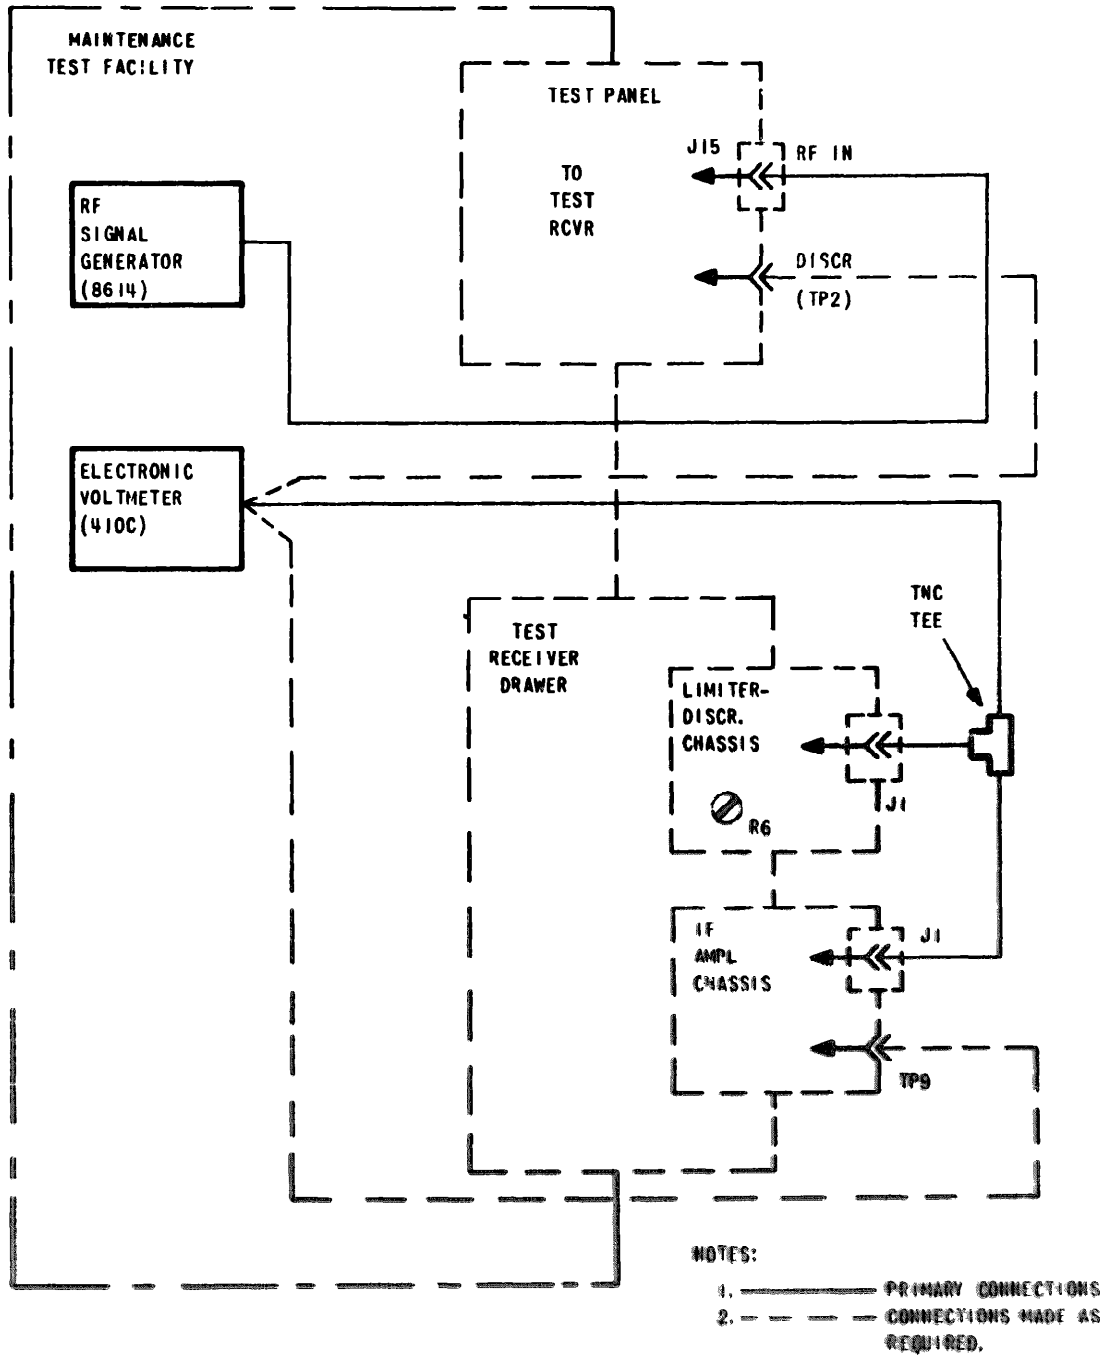

Figure 5-2. Drive to Limiter-Discriminator Check, Cable Connections
- a. **Connect equipment cables as shown in figure 5-2.**